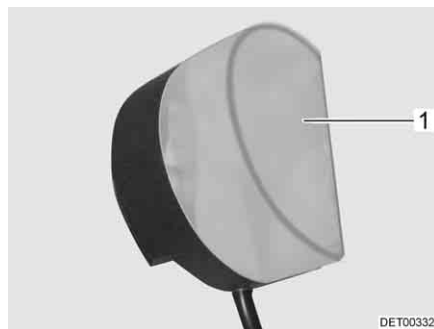

Fig. 289 Wardrobe light
- Press the light covering (Fig. 289,1) lightly together and remove it.